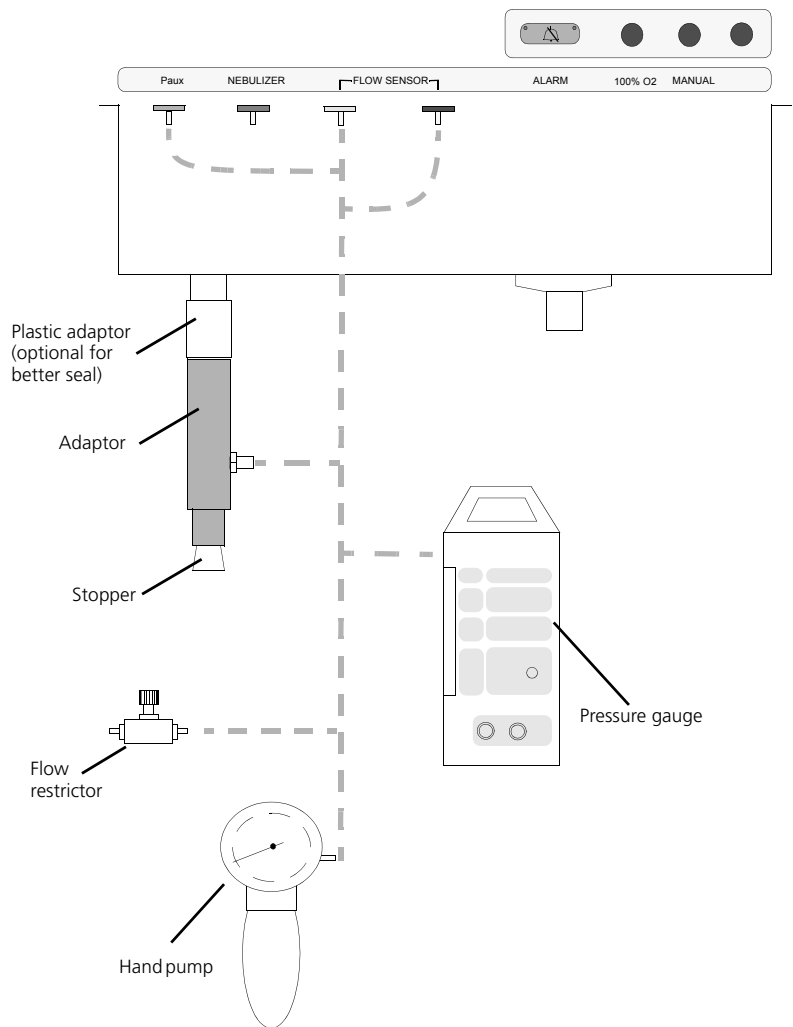

Figure 9-18. Setup for the Ppat, Paw, and Paux full-scale calibrations
1. Build and connect the tubing setup shown in Figure 9-18.